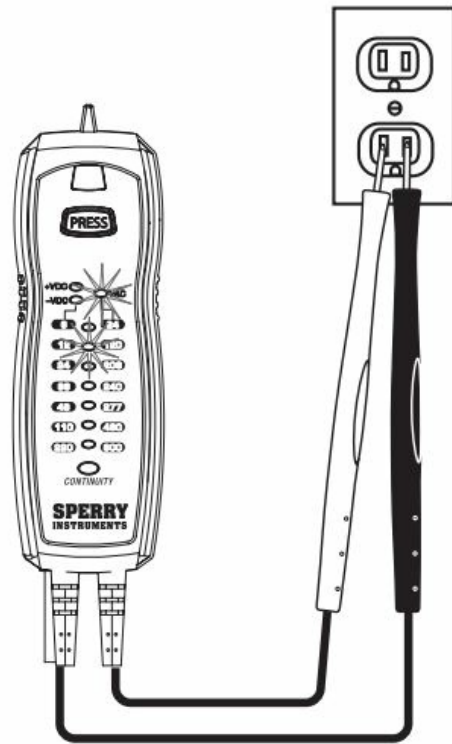

Fig. 4
- Measure the voltage by touching the test lead tips to the circuit where the value of voltage is needed. The VA~ C light will illuminate to indicate AC Voltage. Fig. 4